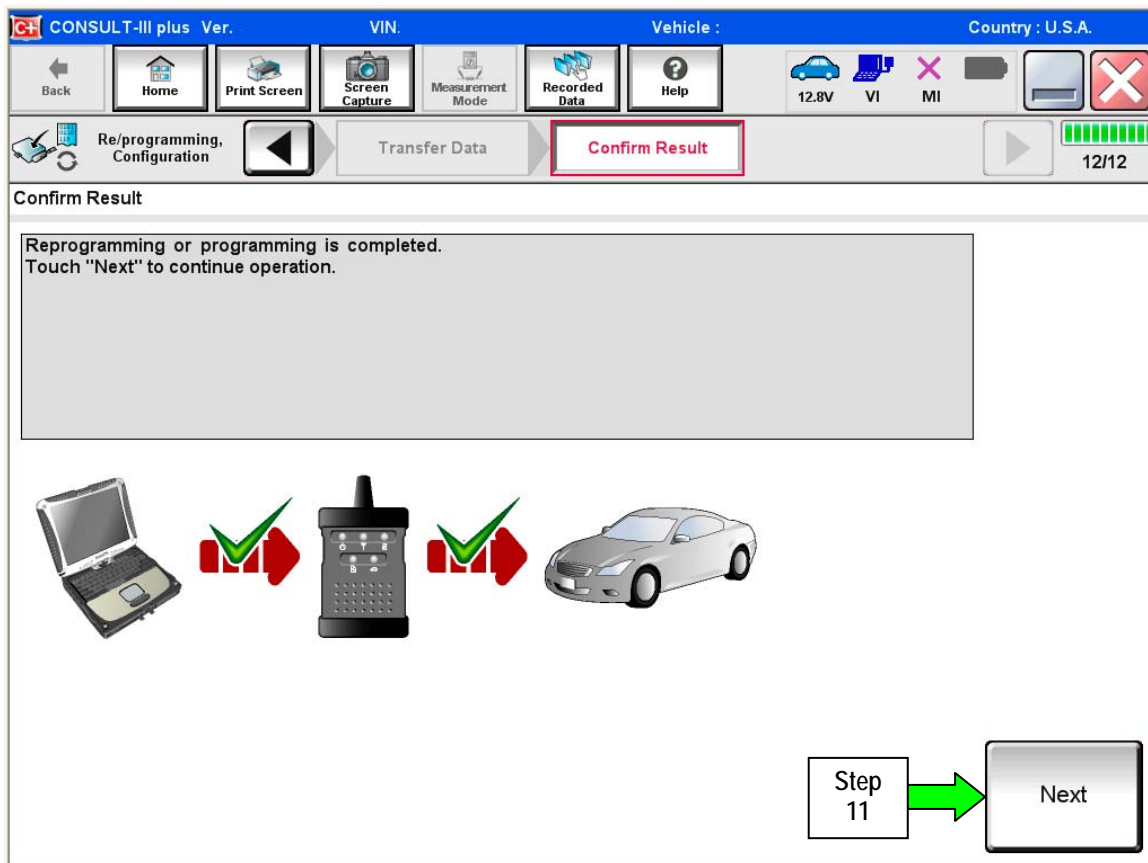

Figure 4
9. When the screen in Figure 4 displays, reprogramming is complete.
**NOTE:** If the screen in Figure 4 does not display (reprogramming does not complete), refer to the information on page 9.